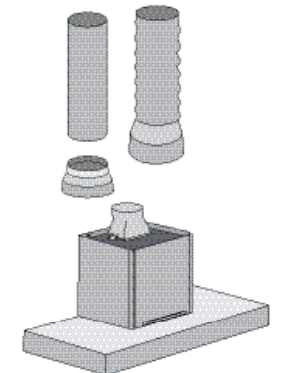

Fig. 10
- Ducted mode** (Fig. 10.) The canopy rangehood has been supplied with flexible flue pipe and duct transition piece, alternatively a 150mm diameter non-combustible flue pipe can be used. Continue the centre line to the ceiling. Fit preferred flue pipe to the fan transition duct. Use cable ties or suitable duct tape to secure flexible pipe to the transition duct.